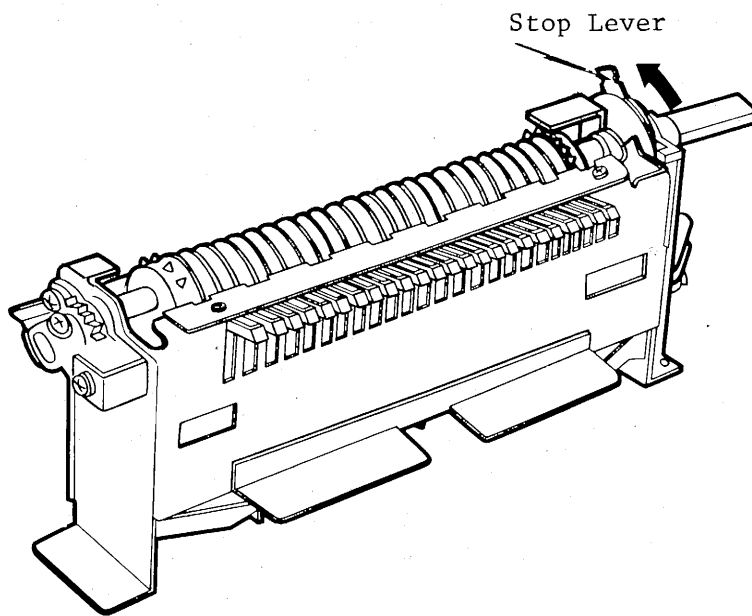

Fig. 78
- (1) Set the Stop Lever at the arrow marked direction as shown in Fig. 78